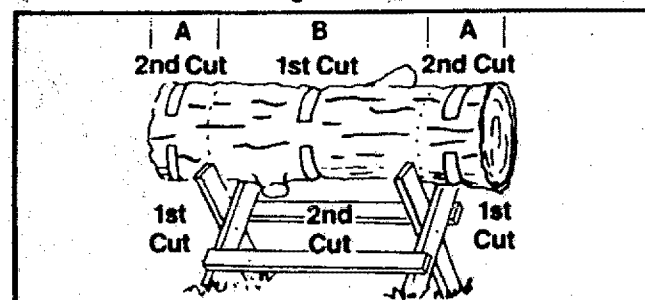

Figure 25
5. BUCKING — USING A STAND (Figure 25)